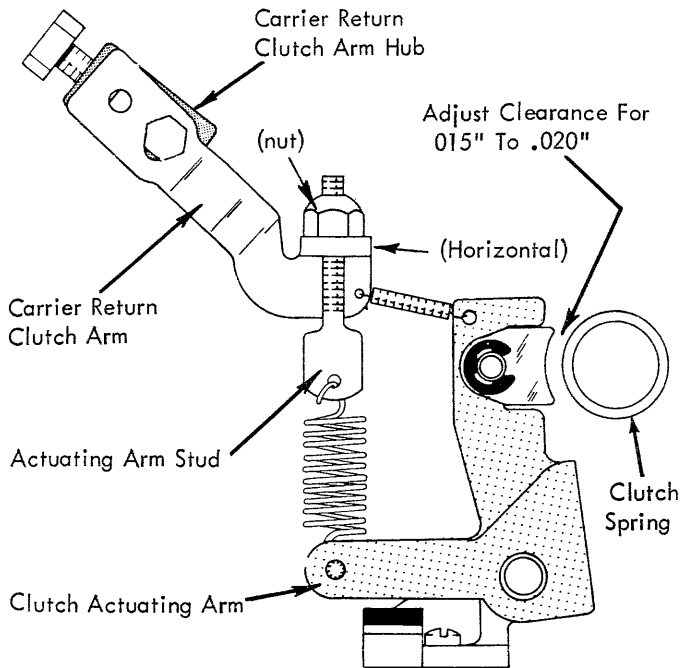

FIGURE 144. Carrier Return Actuating Arm Adjustment
6. Carrier Return Clutch Arm - Adjust the clutch arm on the carrier return clutch arm hub so that the formed lug which mounts the actuating arm stud will be horizontal when the machine is at rest (Fig. 144).
7. Shoe Clearance - The nylon shoe on the clutch actuating arm should clear the carrier return clutch spring by .015" to .020" when the machine is at rest (Fig. 144). Adjust the nut on the actuating arm stud to obtain the proper clearance.